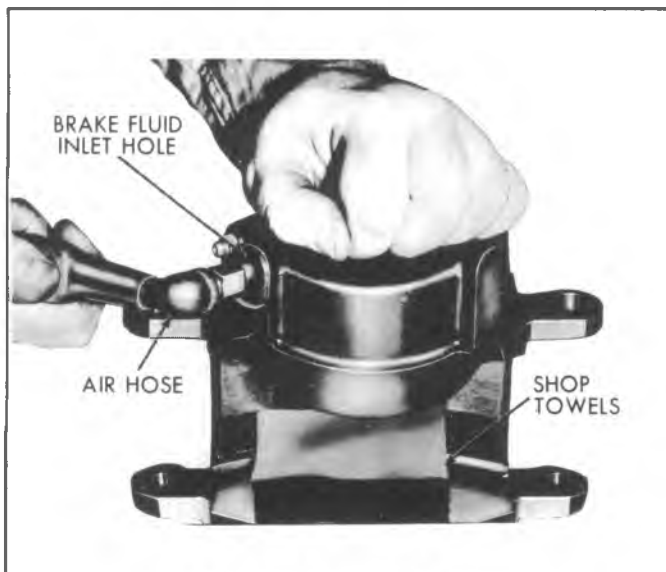

Fig. 5-37--Removing Piston
3. Use clean shop towels to pad the interior of the caliper. Remove the piston by directing compressed air into the caliper inlet hole (fig. 5-37).